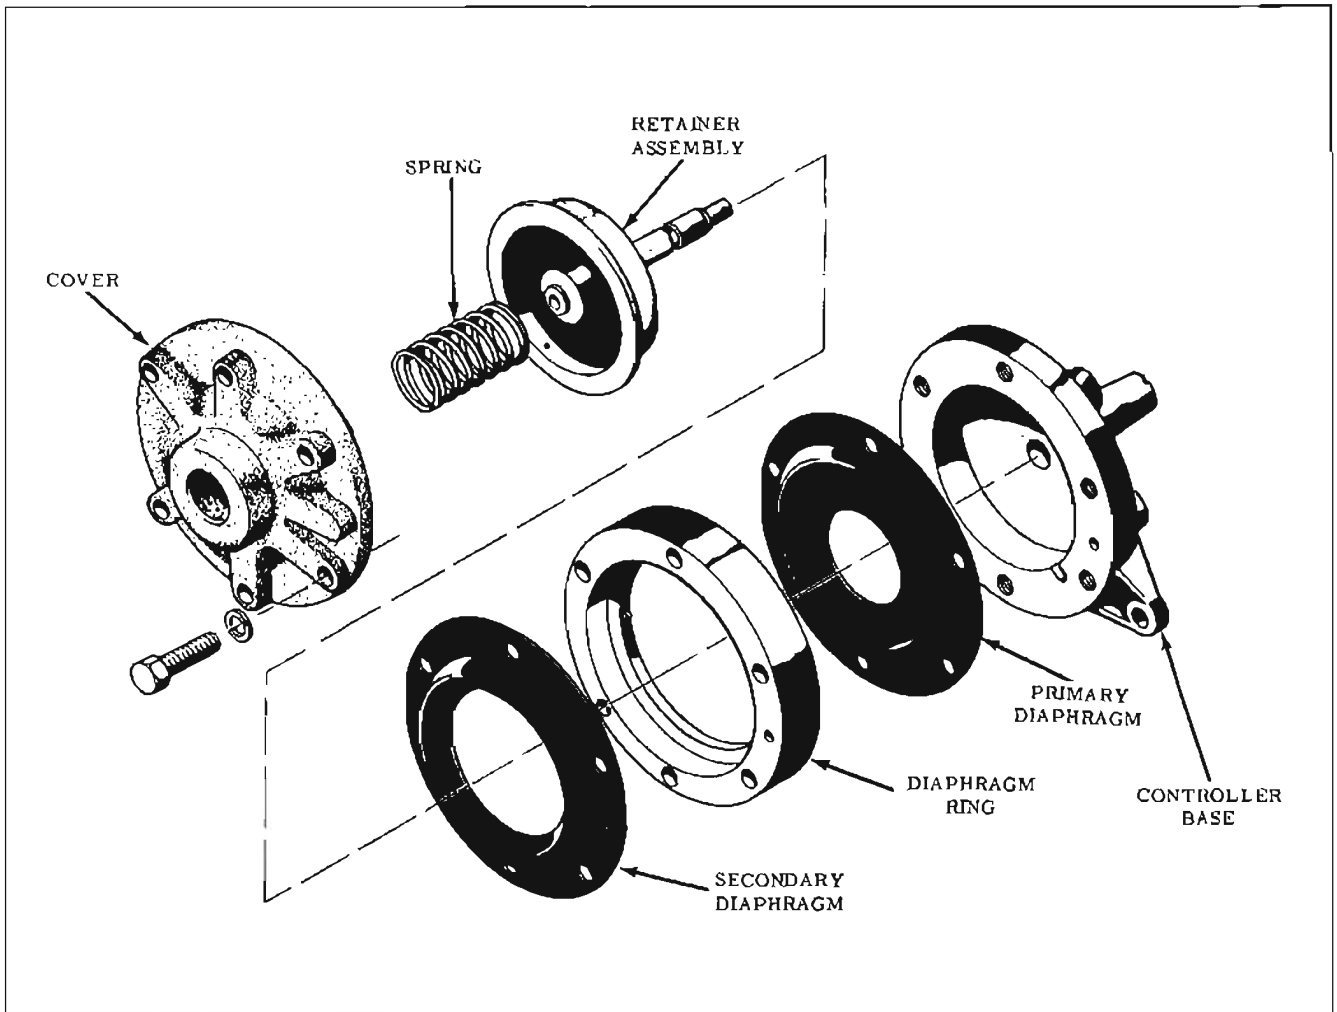

Fig 8-165 Exploded View of Controller Assembly
**DISASSEMBLY (Fig. 8-165)**
2. Remove four (4) of the six (6) cover bolts.
3. Loosen the two (2) remaining bolts about 1/8".